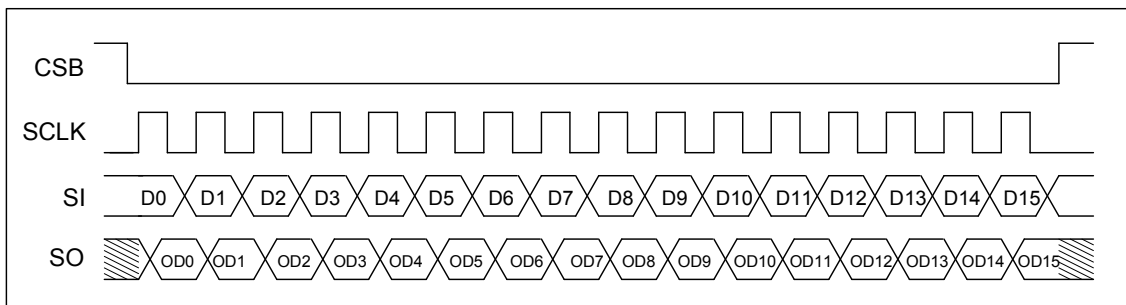
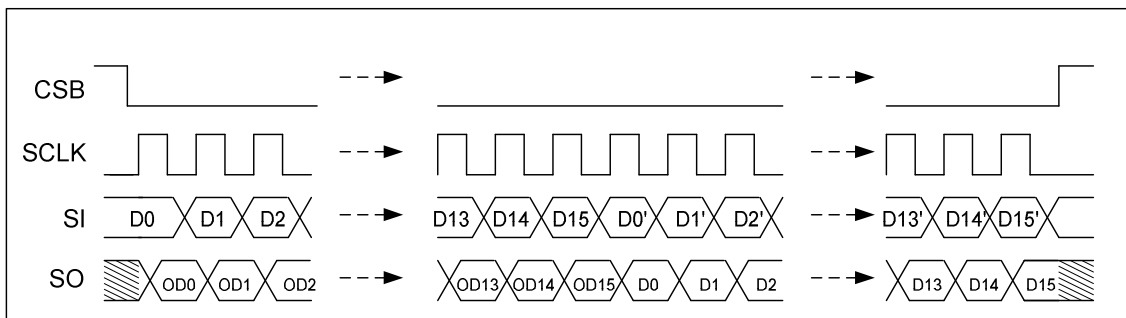

Figure 6: Single 16-bit word SPI communication timing diagram
Figure 7: multiple 16-bit word SPI communication timing diagram
SCLK clocks the Internal Shift registers of the chip. The Serial Input (SI) pin accepts data into the Input Shift register on the falling edge of the SCLK signal while the Serial Output pin (SO) shifts data information out of the SO Line Driver on the rising edge of the SCLK signal. It is important the SCLK pin be in a logic [0] state whenever the CSB makes any transition. SCLK has an internal pull down. When CSB is logic [1], signals at the SCLK and SI pins are ignored; SO is tri-stated (high impedance). See the Data Transfer Timing diagrams in Figure 6 and Figure 7.
This section provides a description of the chip SPI behaviour. To follow the explanations below, please refer to the timing diagrams shown in Figure 6 and Figure 7.
A message is transmitted by the master beginning with the LSB (D0) and ending with the MSB (D15). Multiple messages can be transmitted in succession to accommodate those applications where daisy chaining is desirable, or to confirm transmitted data, as long as the messages are all multiples of 16 bits. Data is transferred through daisy chained devices, illustrated in Figure 7.